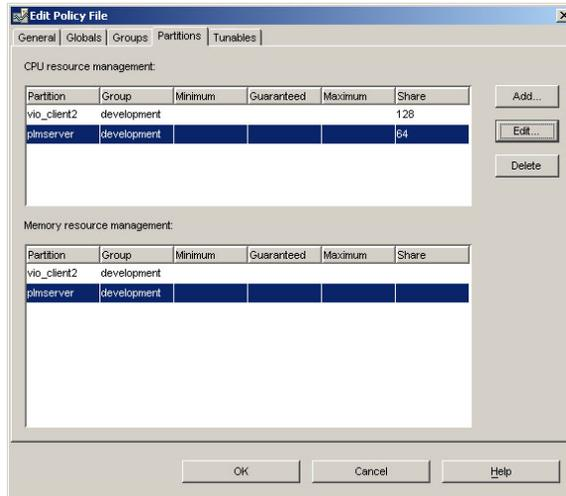

Figure 6-14 PLM wizard completed partitions window
- Repeat the operation starting from step 7 on page 400 for the other partitions in the group. When you have finished the **Partitions** tab of the Create Policy File window, it should look similar to Figure 6-14 on page 403.